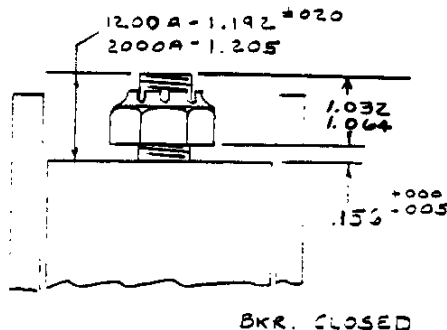

FIG. D3
16. Install the castle nuts and adjust for the $.156 \pm .005$. SEE FIG. D3.
18. Close the breaker and check the distance from the top of the spring retainer to the top of the connector: SEE FIG. D3.
ALSO ADJUST FOR 1.032/1.064 AND .156. SEE FIG. D3.